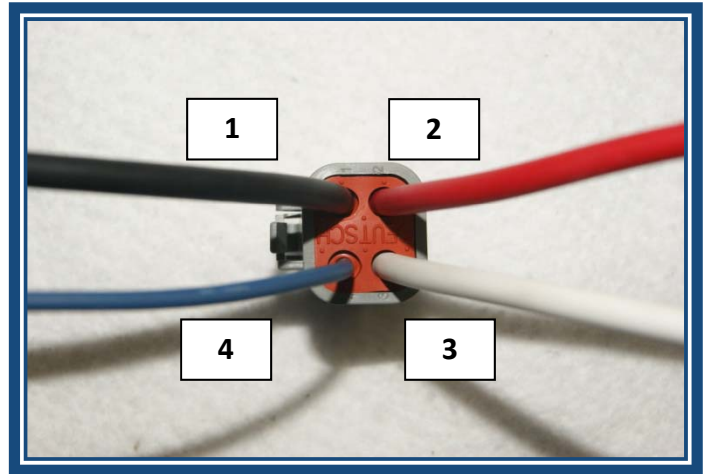

Figure 7
**Step 7:** Verify all the wires are in their correct positions and locked in place. (See Figure 7)